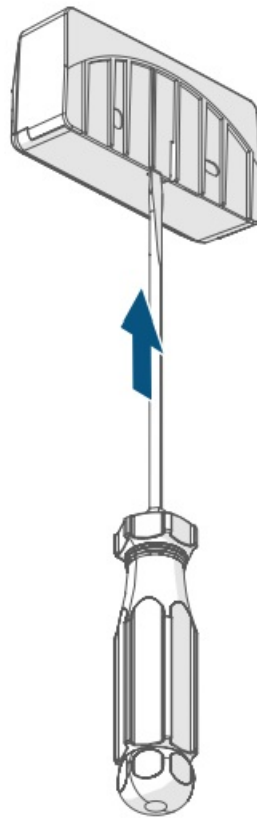

Figure 2
- Press the lug on the back side of the wall bracket (A) slightly to the rear (using a flat-blade screwdriver, if necessary) to loosen the electro-nic unit (C) from the wall bracket (→ see figure 2).
- Press the lug on the back side of the wall bracket (A) slightly to the rear (using a flat-blade screwdriver, if necessary) to loosen the electro-nic unit (C) from the wall bracket (see Figure 2).
- Remove the empty battery from the battery compartment (D).